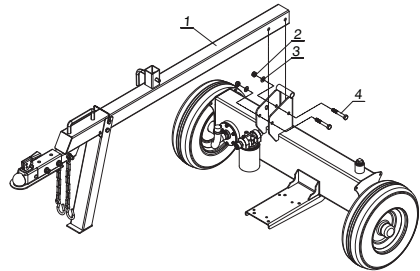

Figure 4
1. Attach the tow bar (#1) to the hydraulic tank and secure using two hex bolts M12x100 (#4), flat washer $\text{\O}12$ (#3) and nylon lock nut M12 (#2). (See fig. 4)